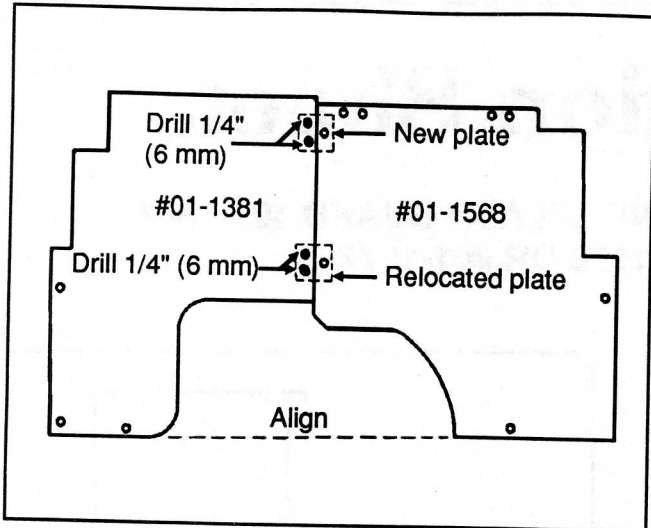

Figure 2
4. Remove the 2 rivets fastening retaining plate to splash guard #01-1387, remove plate and its J-shaped fastener, then discard splash guard. Position new splash guard #01-1568 besides splash guard #01-1381 as shown in figure 2, taking care of aligning bottom of each splash guard.
5. Position retaining plate (removed in previous step) on both splash guards as shown in figure 2, using the perforated hole as a guide, mark the 2 holes to be drilled on splash guard #01-1381. Drill two 1/4" (6 mm) diameter holes.
7. Install a new retaining plate #01-1390 as shown on figure 2, according to the instructions outlined in steps 5 and 6.